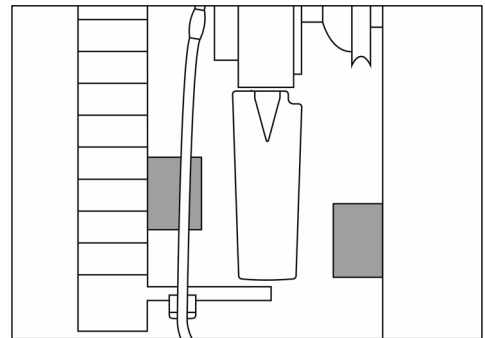

Fig. 34
- 30) Make sure that when the blades are in the cross position, they do not collide with any objects in front of or behind the fan (minimum gap 5 mm (0.196") / see Fig. 34).